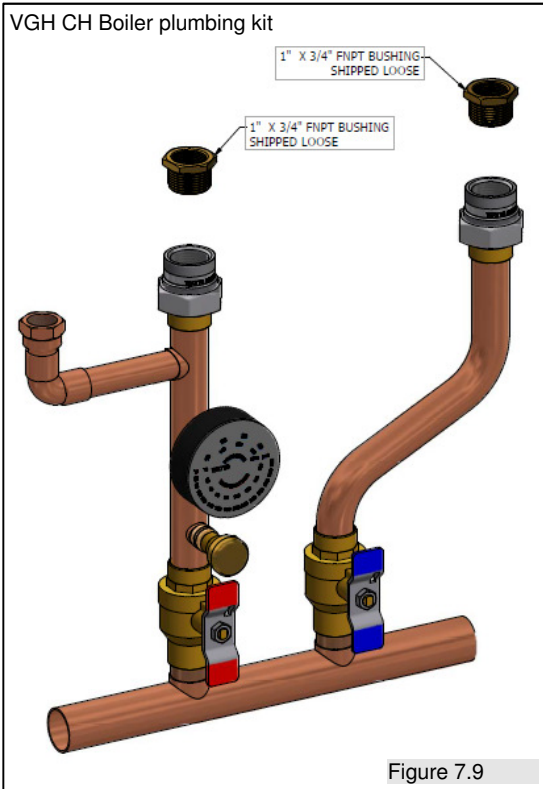

Figure 7.9
Slant/Fin has available a boiler plumbing kit that is highly recommended to be used on all installations. The boiler plumbing kit (for part number see accessoires list §5.1) includes all of the items in figure 7.9 (CH) or 7.10 (CO) The Slant/Fin plumbing kit has a minimal pressure drop equivalent to less than 1 foot of head.